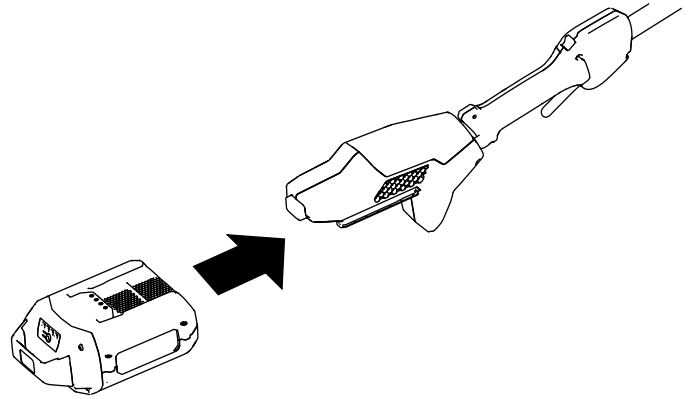

Figure 10
3. Align the cavity in the battery pack with the tongue on the handle housing (Figure 10).